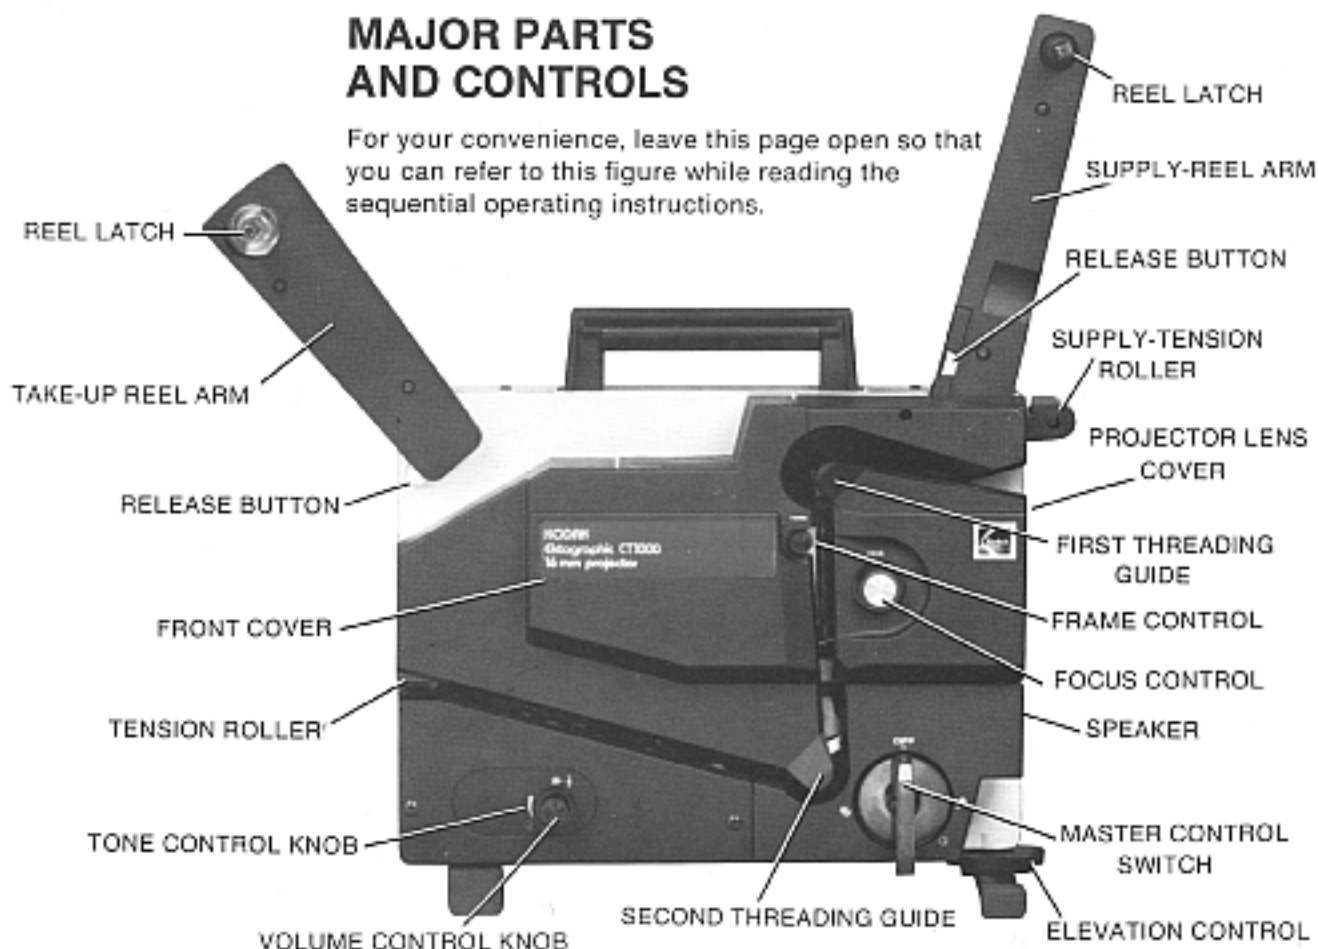

Figure 1
2. Check that the master control switch (see Figure 1) is in the OFF position, then plug the power cord into a grounded 110- to 125-volt 60 Hz receptacle.
1. Turn the master control switch (see Figure 1) clockwise through  (forward) to  (lamp).
2. Adjust focus with the focus control (see Figure 1). If a frame line appears on the screen image, adjust the frame control (see Figure 1) until the frame line disappears. Adjust the elevation control (see Figure 1) as desired.
3. Check that the elevation foot is retracted all the way. (Turn the elevation control, Figure 1, to the left.) Take hold of the power cord plug and pull it out of the receptacle. (*Do not* unplug the projector by pulling on the power cord.) Put the cord in its storage compartment.